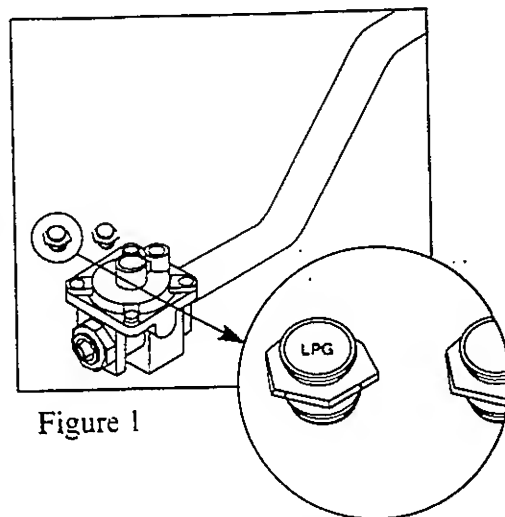

Figure 1
- Place the cap on pressure regulator and tighten. (See Figure 1)